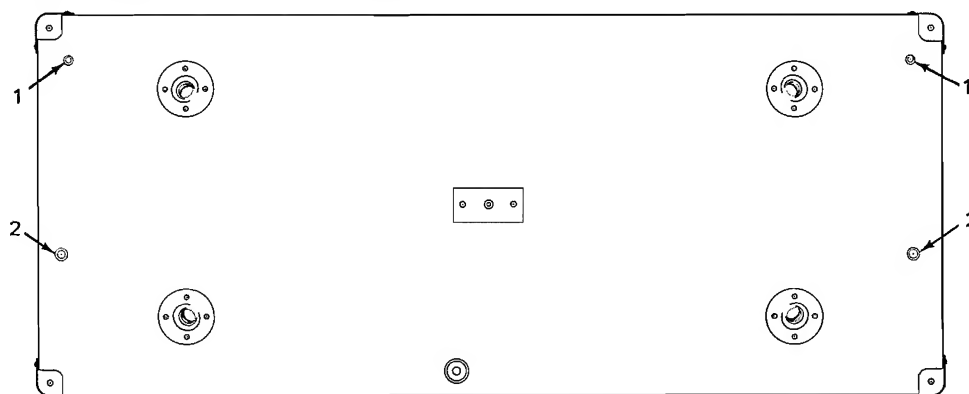

Figure 3-2. RHODES Stage Piano — Bottom View
- a. Position the Piano so that the Keys are pointing up with the bottom surface of the Cabinet facing you (Figure 3-2).
- b. Using a #2 Phillips Screwdriver, remove the two Screws (Figure 3-2, 1) which secure the Cabinet to the Cheekblock cleat on the Keybed.
- c. Remove the two large Screws (Figure 3-2, 2) which mount the Keybed to the Cabinet.